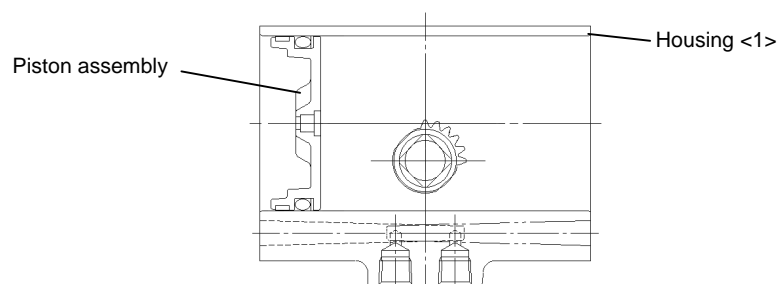

Fig.18
- (6) Lubricate the internal surface of the housing and assemble the piston ( complete with O-rings, a bearing and a back-up ring ) with the housing (Fig.18).